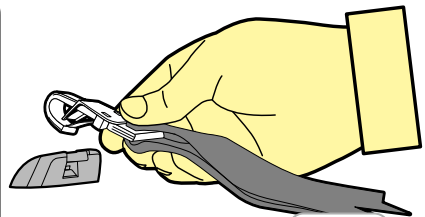

Figure 8
**Step 7:** Hook the attachment clip to the upper anchor fitting (refer Figure 8).